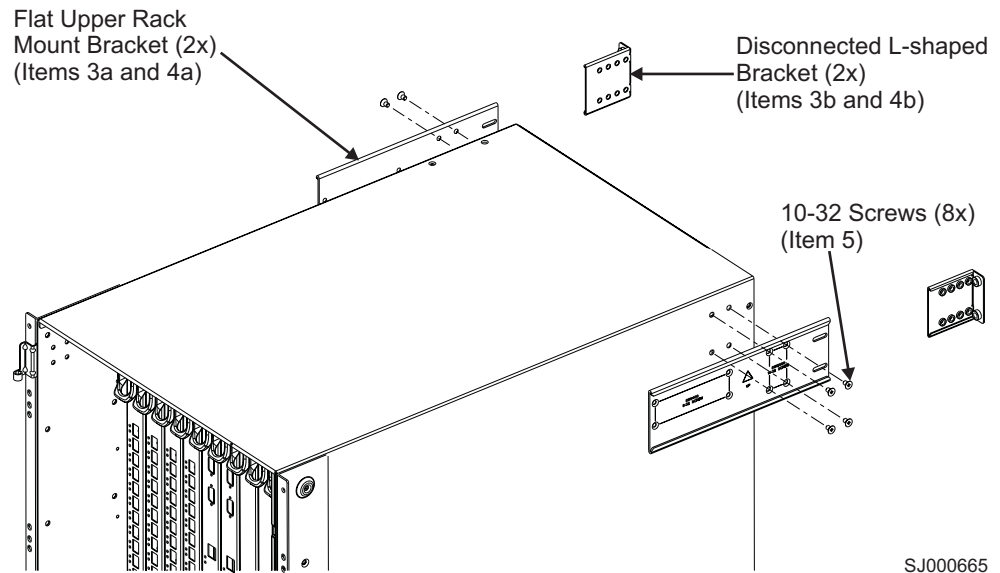

Figure 25. Attaching the right and left flat upper mount brackets to the chassis
6. **Attention:** When you insert screws into the chassis, use the exact screws specified in the procedure. Use of longer screws might damage the chassis. Attach the right and left flat upper mount brackets (see Figure 25 on page 47, items 3a and 4a) to the chassis by using four of the 10-32 x 5/16-in. Phillips-flathead screws (item 5) per bracket. Tighten the screws. Orient the slotted holes in the brackets towards the blower side of the chassis. See Figure 25 on page 47 for orientation.